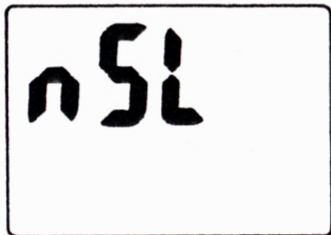

FIG27
2. You can switch the meter to non-sleep mode by first turn the meter off, then push and hold MN/MX and ON at the same time until nSL is displayed as shown in Fig. 27. Release